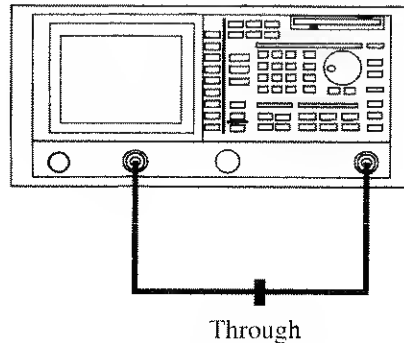

Figure 2-85 Setup for TG Measurements
1. Connect the unit under test as shown in Figure 2-85.